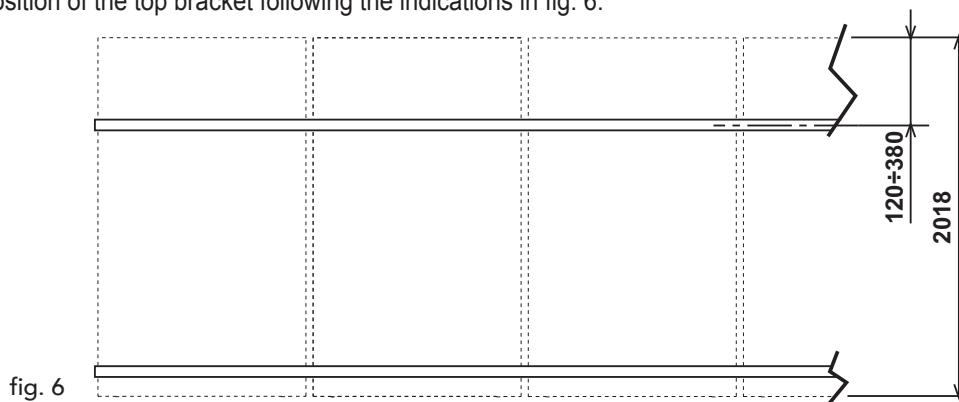

fig. 6
- 4 - Establish the position of the top bracket following the indications in fig. 6.